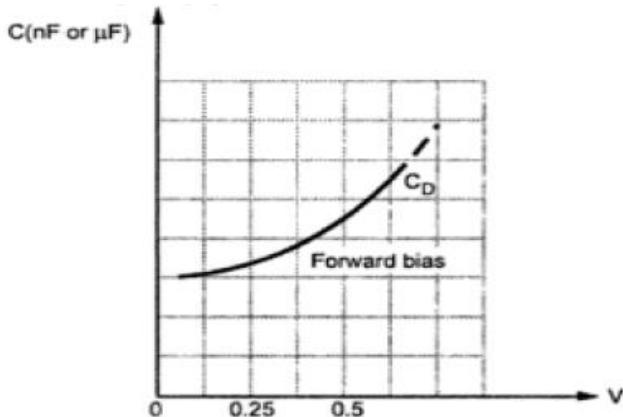

Fig. 1.17 Diffusion capacitance versus applied forward voltage
- The graph of  $C_D$  against the applied forward voltage is shown in the Fig. 1.17.